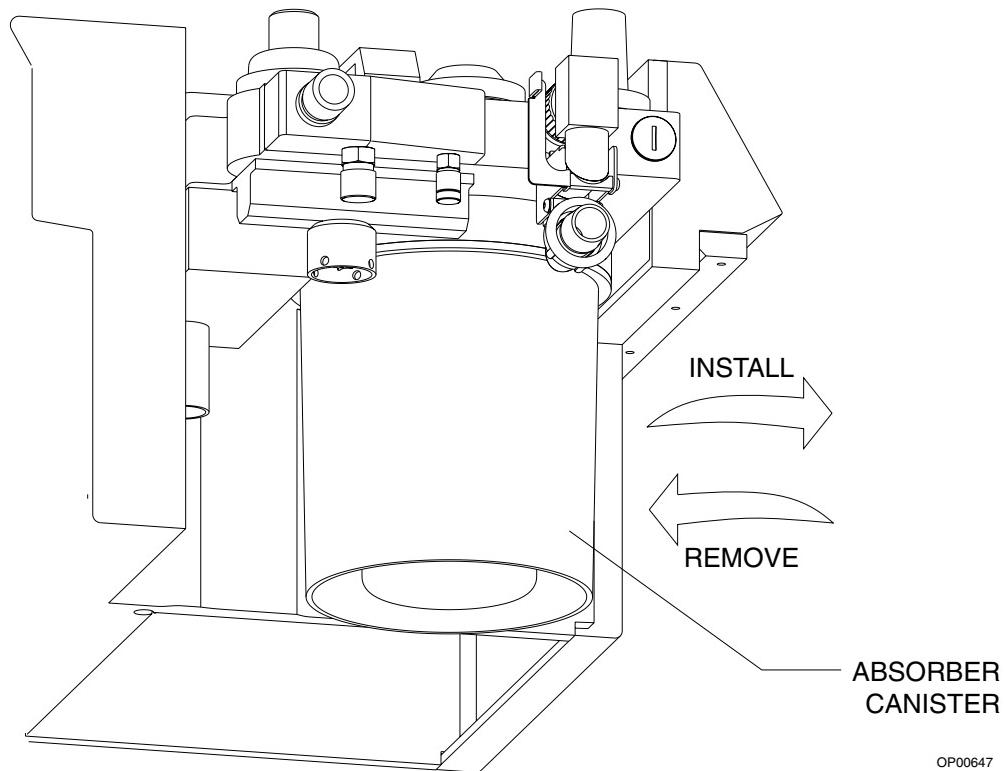

Figure 10-10. Replacing Absorber Canister
4. Fit the canister into position below the breathing system and turn it counterclockwise (as viewed from top of ventilator) as far as it will go. See Figure 10-10.